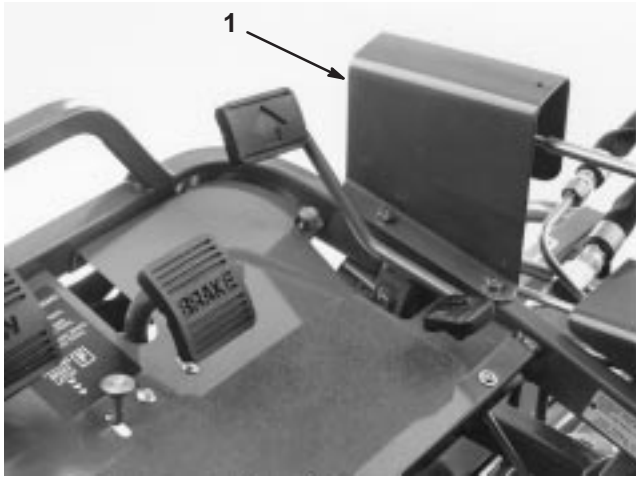

Figure 44
1. Place 1, 2 and 3 spools in neutral (center of travel) and remove the transfer rod guard from the foot panel (Fig. 44).